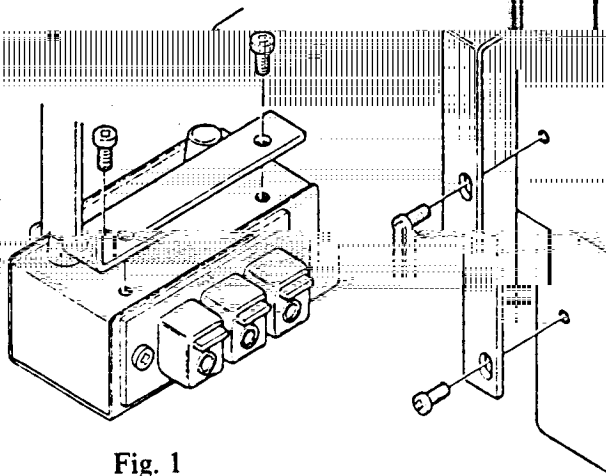

Fig. 1
Memory-equipped FRG-7700 receivers include a backup feature which will hold the memory even when the unit is unplugged from the supply voltage. The backup feature requires three AA size penlight cells (not supplied), which should be installed as shown in Figure 1. Be absolutely certain to observe the proper polarity of the batteries during installation.
2. Referring to Figure 1, fix the supplied mounting bracket to the FF-5 with the screws removed in Step 1.